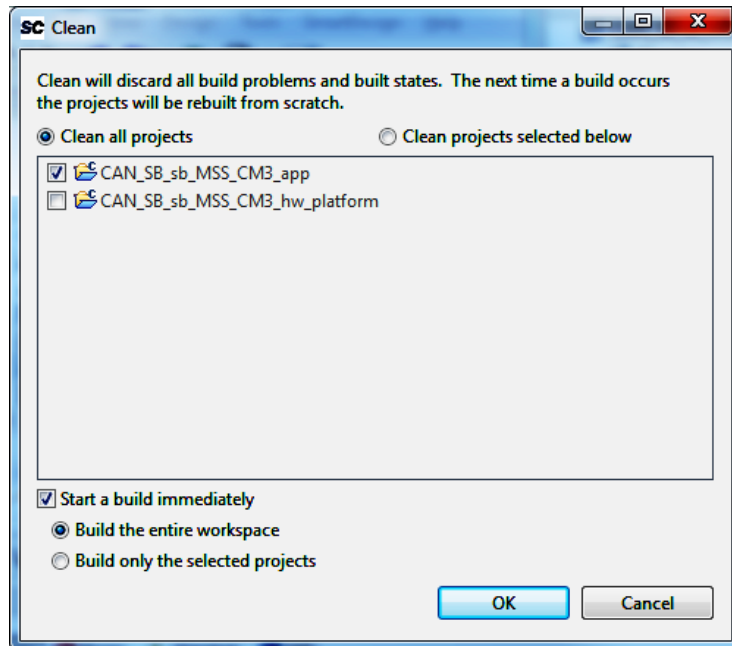

Figure 23 • Clean and Build Window
14. Accept the default settings in the **Clean** window, and click **OK** as shown in Figure 23.